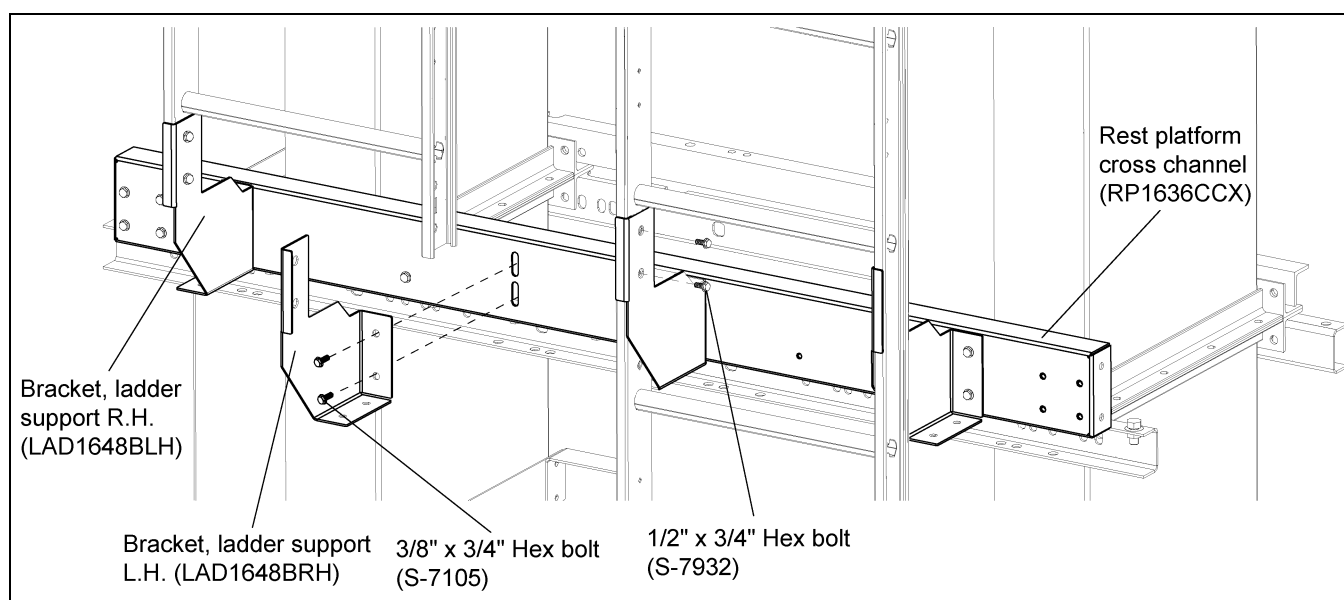

Figure 6R
10. Attach ladders to ladder support brackets using 1/2" x 3/4" hex bolts. (See Figure 6R.)